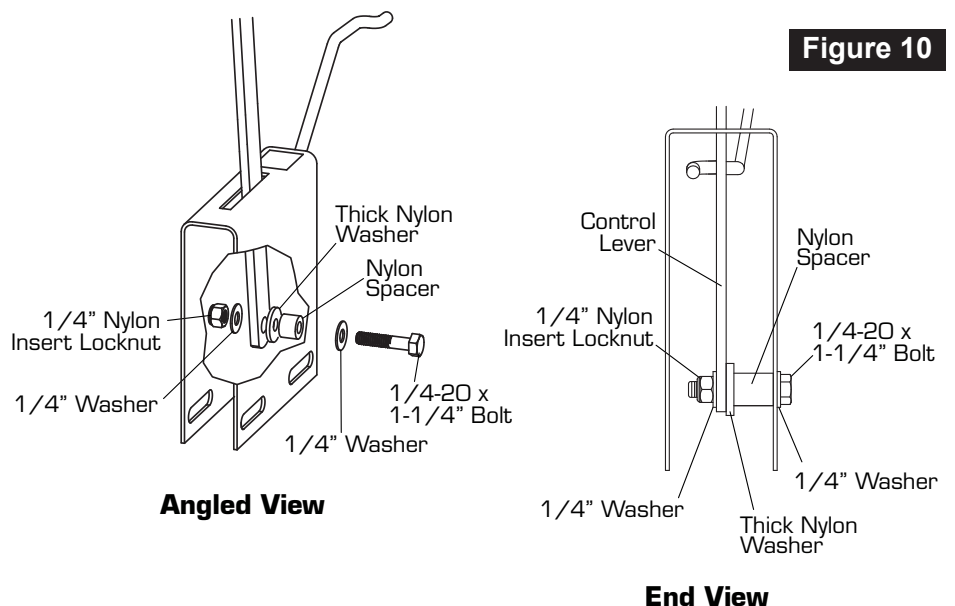

Figure 10
14. Install 1/4-20 x 1-1/4" Bolt and 1/4" Washer through the U-shaped bracket, Figure 10.
NOTE: The bolt will not go through both sides of the Control Bracket. Refer to the "End View" in Figure 10 for detailed assembly.